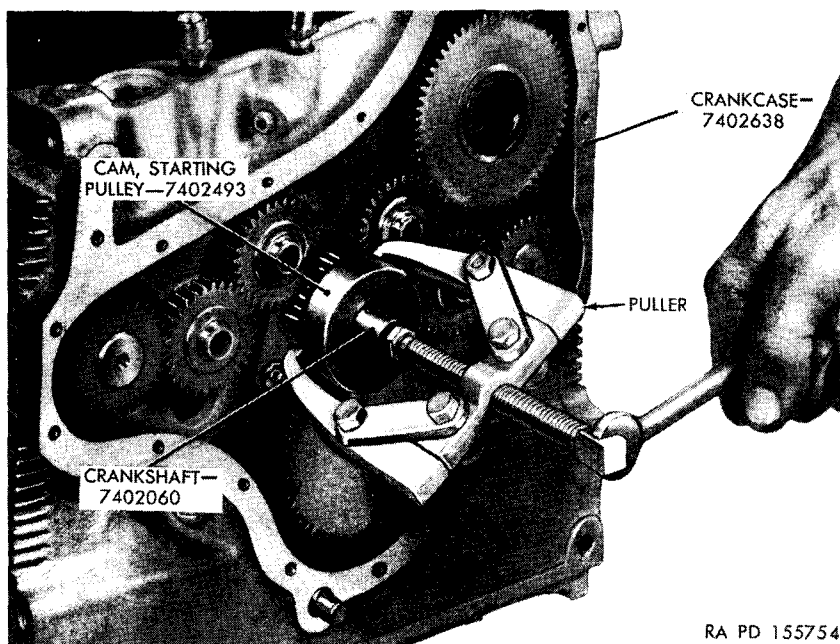

Figure 44. Removing clutch cam and roller.
- a. Remove clutch cam and roller from front end of crankshaft using cam puller (fig. 44).